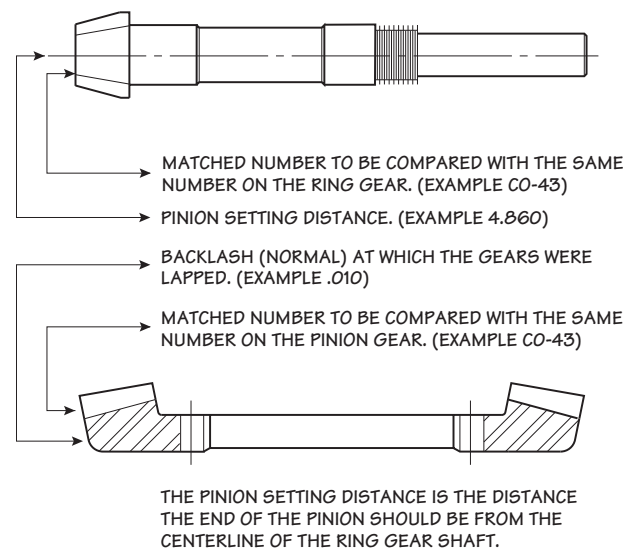

Figure 8 Gear Match Numbers and Setting Data
Before assembling a new pinion gear in the pinion cage check match numbers on pinion gear and spiral bevel ring gear to be certain that they are a matched set. Gears are lapped in matched sets at the factory and should not be separated. Numbers are etched on both the pinion and ring gear as illustrated in **Figure 8**.
1. Install O-ring (702) onto pinion cage subassembly.
2. Bolt pinion cage subassembly to case using proper number of shims to give indicated pinion setting distance which is etched on front face of pinion gear. See **Figure 8**. Tighten to 75 ft·lb_f (102 N·m) torque.
5. Install dowel pins (20) to align bearing bores. Fasten case cover to case with cap screws tightening to 75 ft·lb_f (102 N·m) torque.